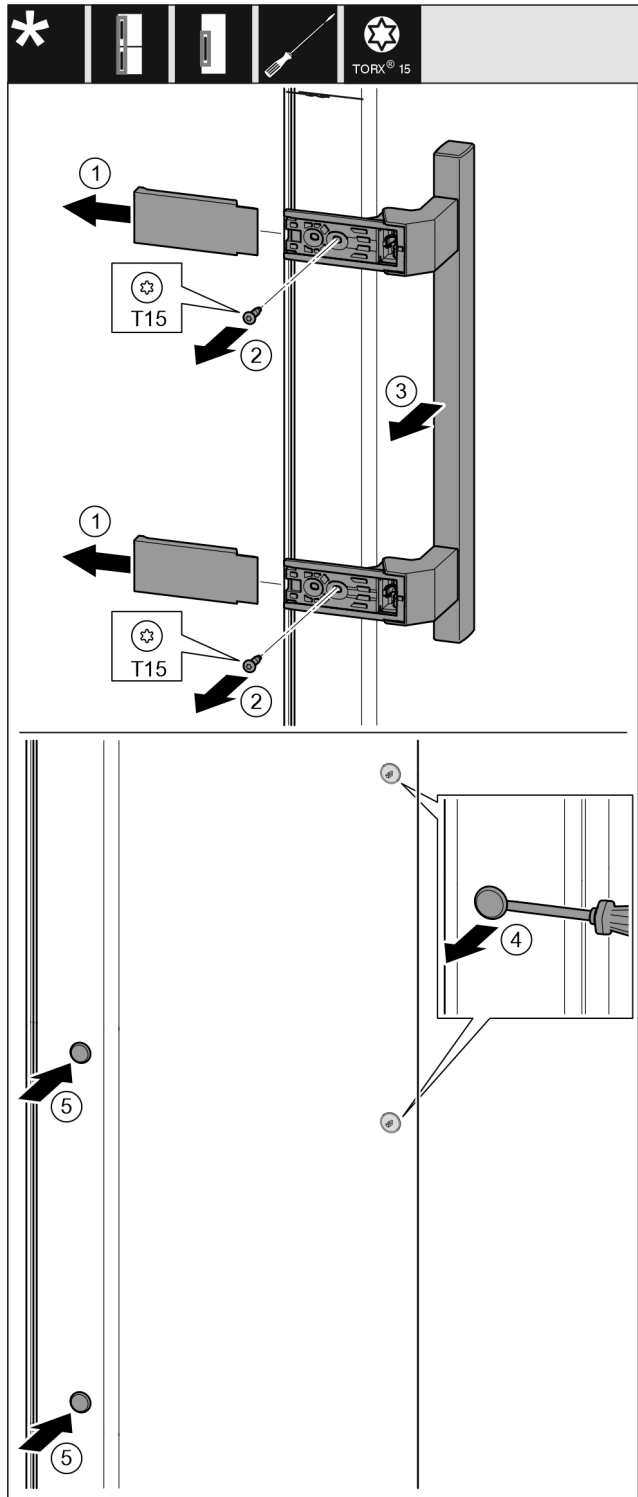

Fig. 17
- Pull off the cover. Fig. 17 (1)
- Unscrew the screws with a Torx 15 screwdriver. Fig. 17 (2)
- Take off the handle. Fig. 17 (3)
- Carefully lift the side plug with a slotted screwdriver and pull it out. Fig. 17 (4)
- Replace the plug on the other side. Fig. 17 (5)